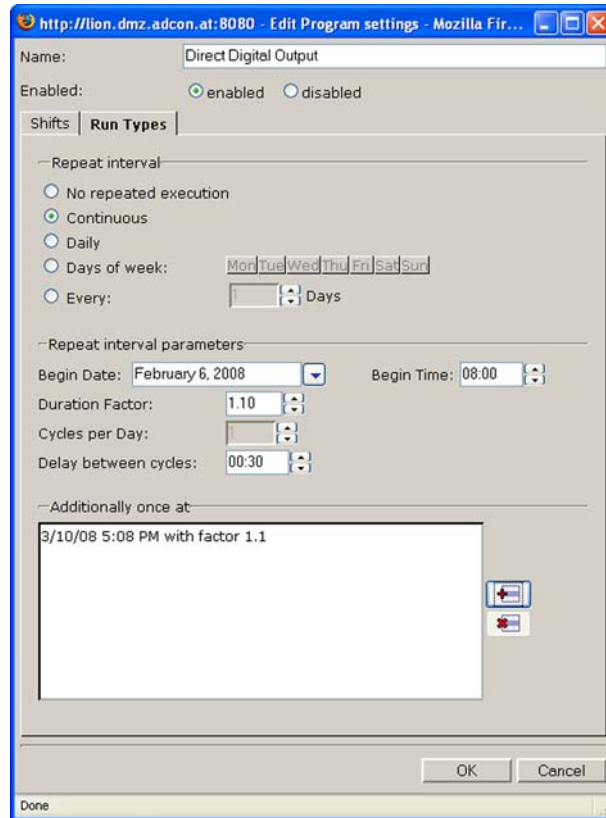

Figure 9. Run Types Tab in New Program Settings Dialog
1. In the New Program Settings dialog, select the **Run Types** tab to display the dialog shown in Figure 9.